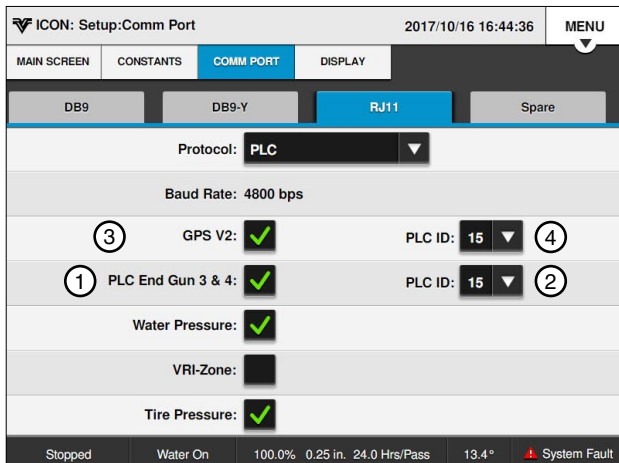

Figure 42-1 PLC Setup Screen
1. Push **Menu**, **Setup**, **Comm Port**, and **RJ11** (recommended) or **DB9-Y** (requires special cabling), change the comm port protocol to PLC and push the **PLC Setup** button to display the PLC screen. Refer to Figure 42-1.